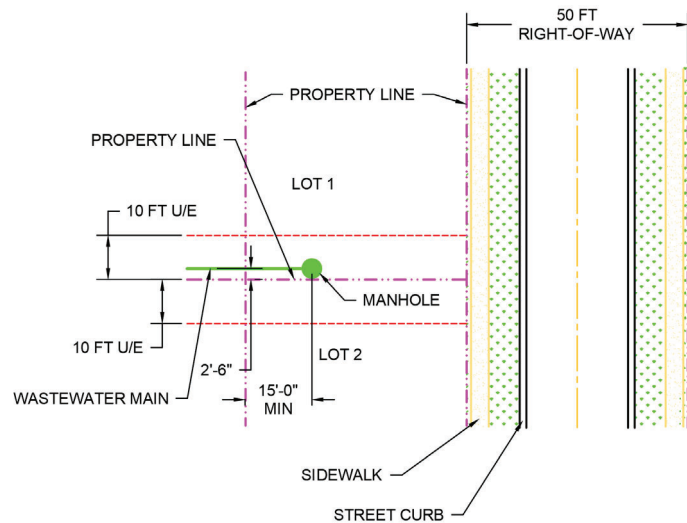

Figure 22 – Wastewater Main Manhole Extension
5.6. Dead-end manholes must be installed a minimum of fifteen (15) foot inside the last property line that is going to be serviced. See figure 22.